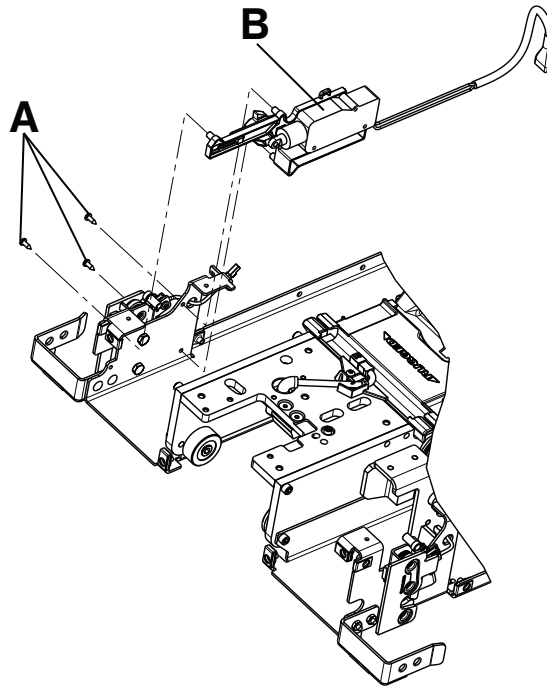

Figure 19 – Trolley actuator assembly
2. Using a T20 Torx driver, remove the three delta screws (A) that secure the trolley actuator (B) to the trolley frame (Figure 19). Save the screws.